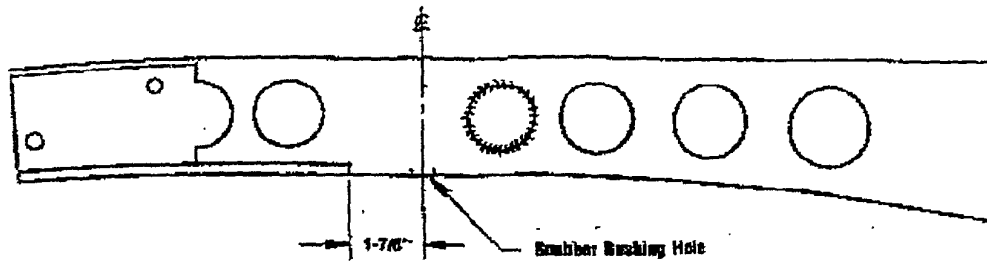

Figure 1
4. Preparing the frame. The first step is to plug the two large holes on the inside of the frame just slightly rearward of the axle centerline (Figure 1).
5. The next step is to scribe a line around the frame rails using the center of the rubber snubber holes from step 2. This will be the axle centerline. Now, on the inner lower flanges of the frame rails, the flanges must be trimmed to the 1-7/8" dimension shown in Figure 1.